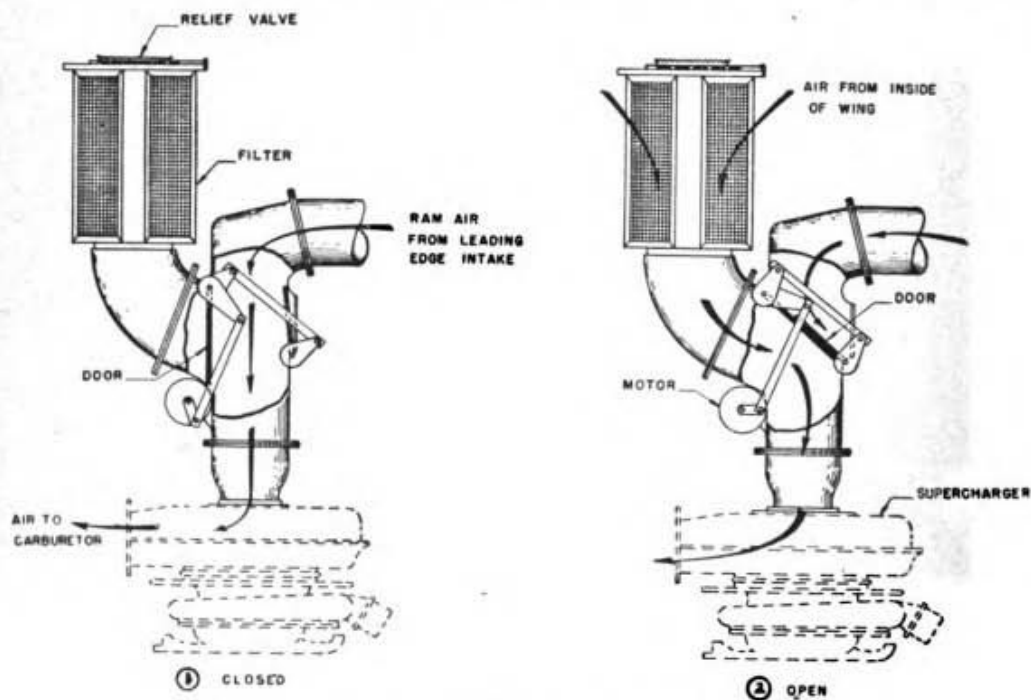

Figure 21. Carburetor air filter.
I. Carburetor air-filter control. (1) **PURPOSE OF CARBURETOR AIR FILTER.** Excessive engine wear due to dust and sand entering the engine through the carburetor air intake has made it necessary to incorporate an air filter in the induction system. Sand and dust conditions create serious maintenance problems. Although such conditions are most troublesome on the ground, while the engine is idling "on the line" or during taxiing or take-off, they are also present during flying, as air in circulation is capable of carrying the dust and sand to great heights. The carburetor air filter is designed to remove dust and sand from the air entering the engine.
(2) **OPERATION OF CARBURETOR AIR FILTER.** One type of carburetor air-filter valve is operated by an electric motor. The motor is controlled by a double-throw toggle switch located on the instrument panel. When the switch is placed in the CLOSED position, atmospheric air bypasses the filters as shown in figure 21①. When the switch is held in the OPEN position the atmospheric air must be drawn through the filters before entering the supercharger as shown in figure 21②. An